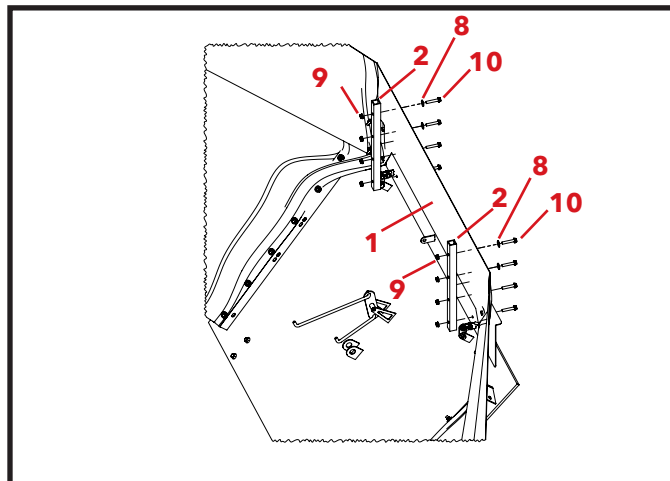

Figure 5
Attach the Tip-Up Corner (1) to the Front Panel Assembly (3) using the Panel Mount Tubes (2), 5/16" x 1 3/4" bolts (10), 5/16" flat washers (8), and 5/16" flange nuts (9) provided. See Figure 5.